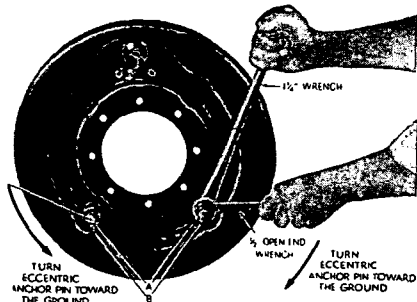

Figure 32
In Figure 32 the letter "A" indicates the eccentric anchor pins that control the shoe movement toward or away from the drum. To decrease the lining to drum clearance—proceed as follows:
5. Each brake is equipped with two brake shoes and eccentric adjusting pins. Adjust each shoe in the manner described above, which is illustrated graphically in Figure 32.